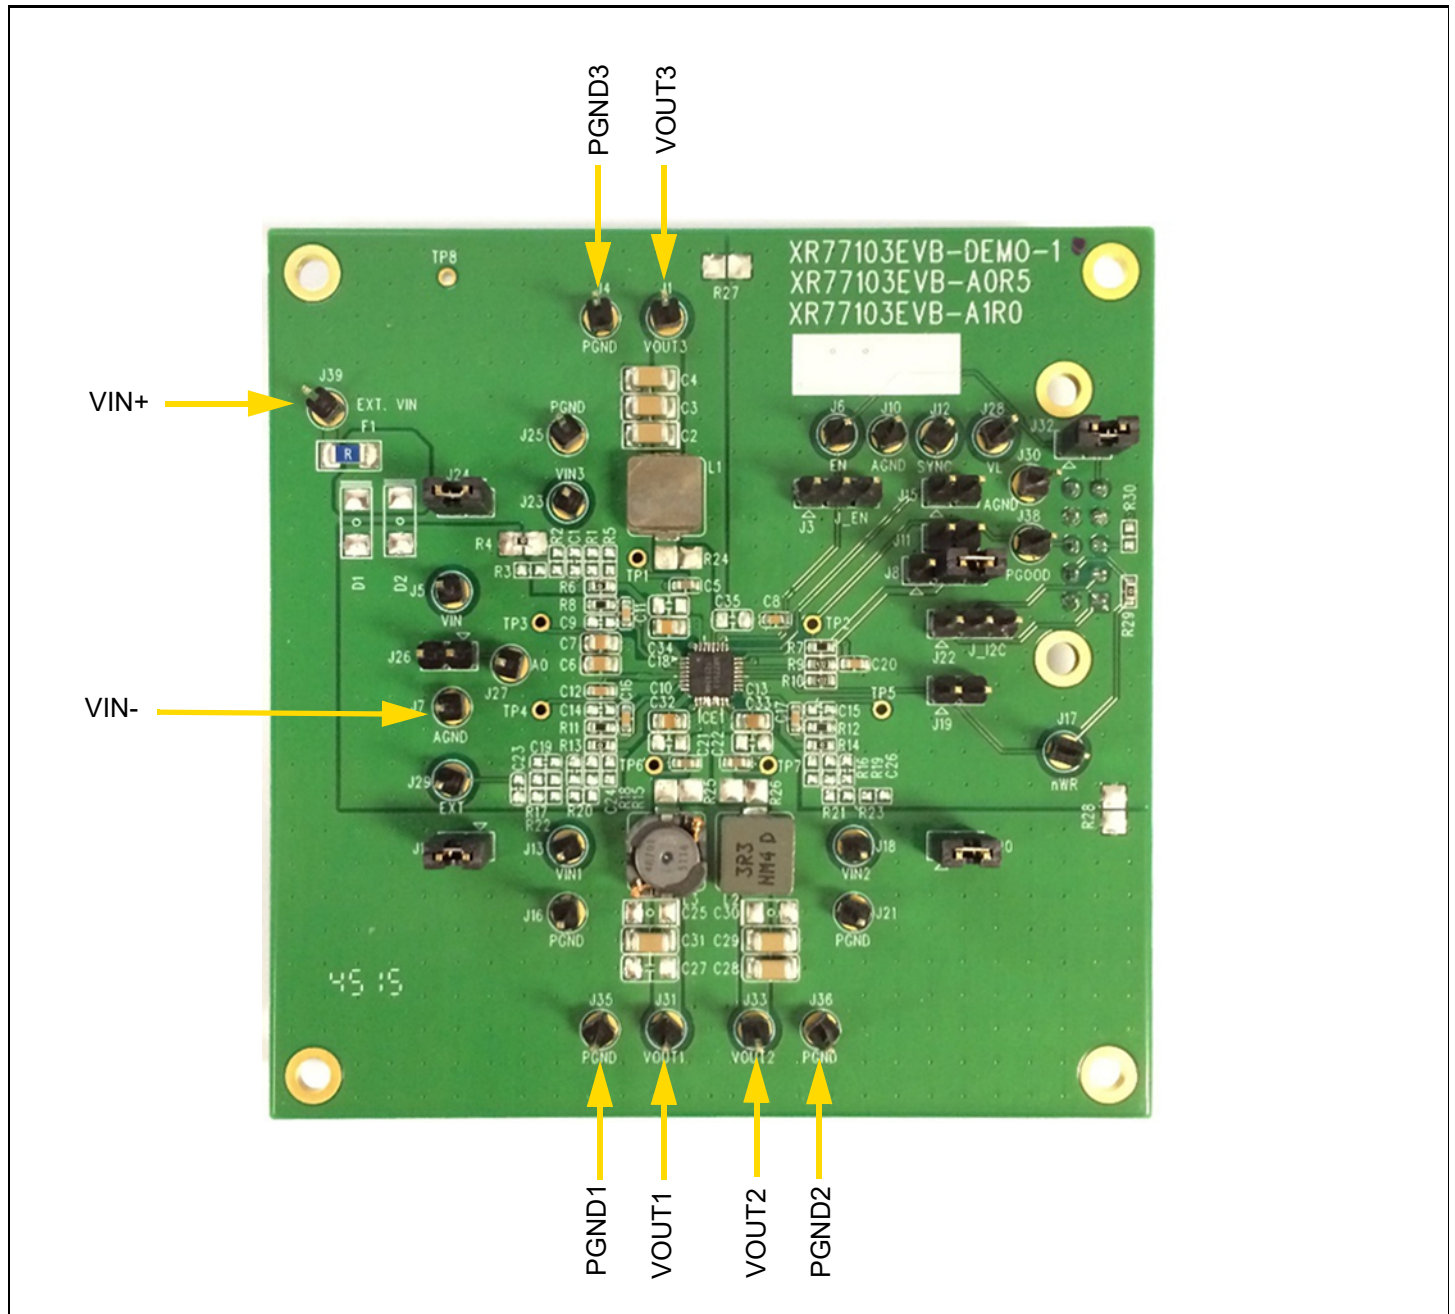

Figure 1: Connecting and Monitoring V_{IN} and V_{OUT}
2. Connect a turned-off power supply that is within the above V_{IN} specification (from 5.5V to 14V, 12V typical) to V_{IN+} and V_{IN-} with short and thick leads. Use test pins EXT. VIN (J39) and AGND (J7) to connect and monitor V_{IN+} and V_{IN-} respectively. See locations in Figure 1 on page 2.
3. Initially set to 0A, connect electronic loads to each desired channel that will be no more than the maximum I_{OUT} (2A) to V_{OUTx} and $PGNDx$ (where x = the channel number) with short and thick leads. Use test pins in Table 1 on page 1 to connect and monitor V_{OUTx} and $PGNDx$ respectively. See locations in Figure 1 on page 2. For all channels with the electronic load connected, ensure that the respective V_{IN} jumper is installed per Table 1 on page 1.